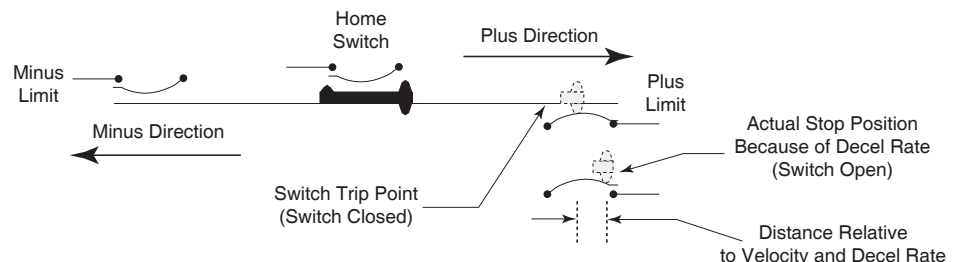

Figure 5.2 Limit modes of operation
| Modes        | <p>1 Normal Limit function with a decel ramp.</p> <p>The I/O must be set for Limits (S1-S4, S9-S12 Command). If the limit switch in the direction of travel is reached, the motion will decel to a stop. That is, the plus limit works only in the plus direction of travel and the minus limit works only in the minus direction of travel.</p> <p>In Figure 5.2, the Limit is activated at a given position but because of the deceleration rate the motion continues for the duration of the deceleration time. This position may be beyond the trip point of the limit and a subsequent move in the same direction will not stop. A crash may be imminent.</p> <p>If the limit is activated and maintained the software will allow motion only in the opposite direction.</p> <p>If Homing (HM) is active and a limit is reached, the motion will decel to a stop and then reverse direction and seek the Homing Switch. If the Homing Switch is not activated on the reverse and the opposite limit is reached all motion will stop with a decel ramp. (See HM)</p> <p>2 A Limit stops all motion with a deceleration ramp including Homing.</p> <p>3 A Limit will stop all motion with a deceleration ramp and stop program execution.</p> <p>4 Functions as LM=1 but with no deceleration ramp</p> <p>5 Functions as LM=2 but with no deceleration ramp.</p> <p>6 Functions as LM=3 but with no deceleration ramp.</p> |